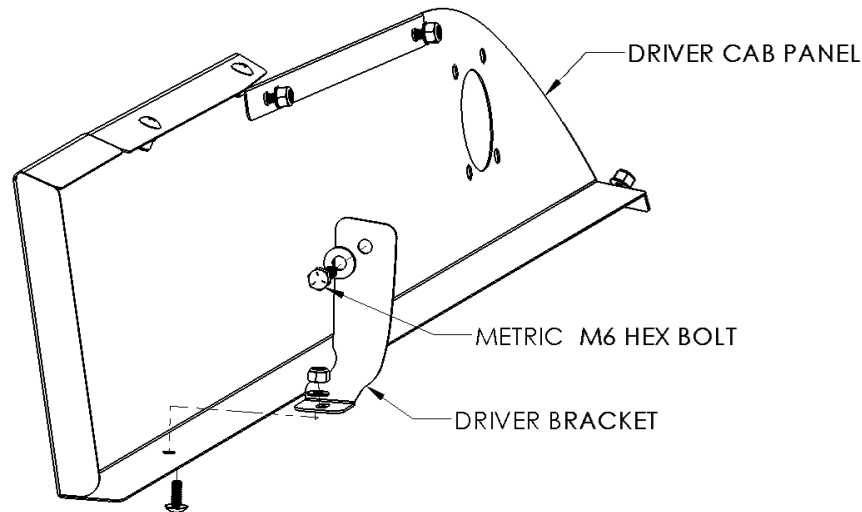

Figure 5
- b. Insert (3) 10-32 bolts into drilled holes, and secure with (3) flat washer and (3) locknuts
- a. Position Driver Bracket in place behind the driver panel and secure to truck with supplied M6x20mm hex head bolt (see figure 5).
- b. Fasten Bracket to Panel using a 10-32 bolt with (1) flat washer and (1) locknut. Repeat for other side.